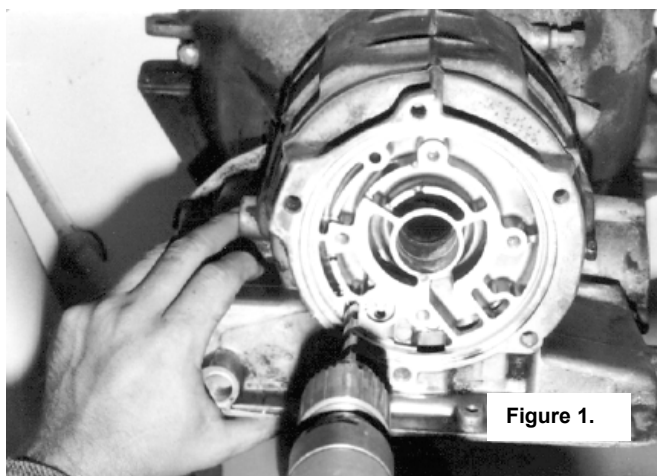

Figure 1.
1. Drill this hole first--all the way through the case (Figure 1.)